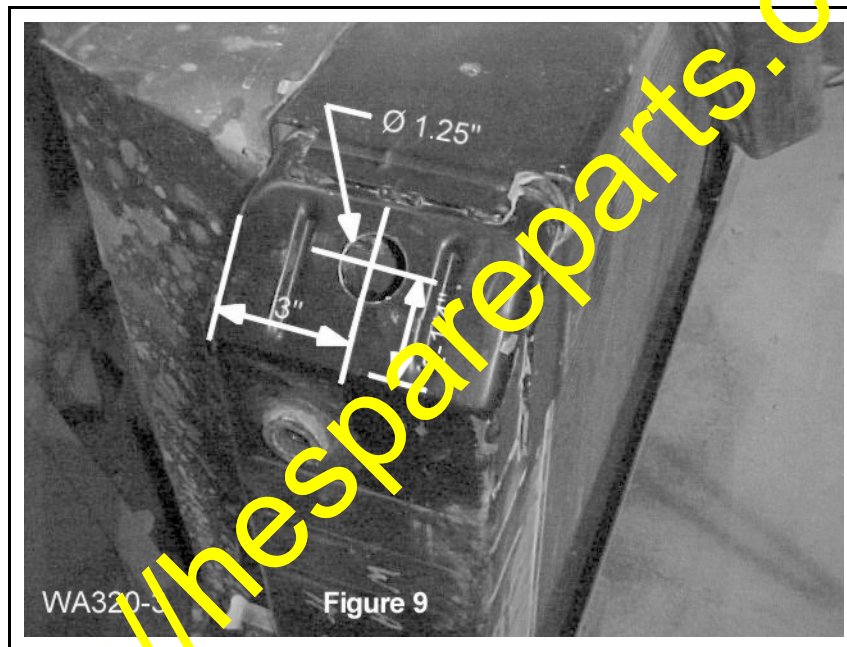

Figure 9 WA320 Radiator Modification Dimensions
1. As shown in Figure 9, on the lower left side of the radiator bottom tank, measure up from the bottom on the slanted surface 2 inches and mark the spot.